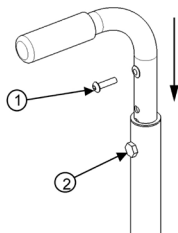

Fig. 16
- Remove screw (1) (Fig. 16) that holds the back upholstery.
- Pull backrest upholstery down several centimeters to gain access to screw (2), which holds the push handle.
- Remove screw (2) and then remove the backrest handle.
- Reinstall and tighten screw (2) firmly.
- Install back upholstery at and fix it firmly with screw (1) on each back cane.